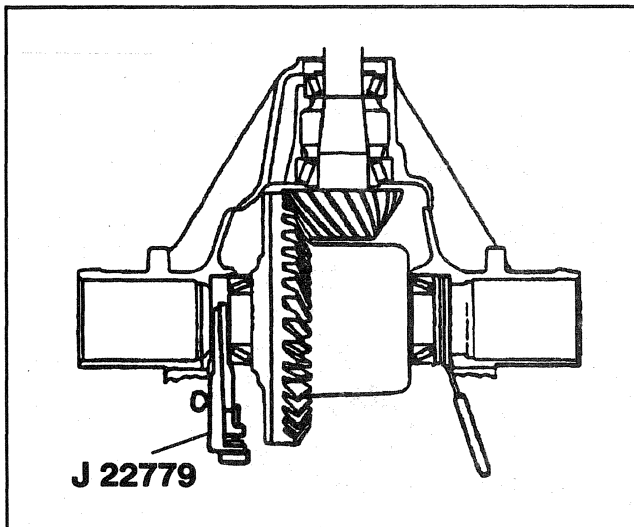

Figure 22—Measuring Side Bearing Shim Requirements
5. Move the tool back and forth in the bore while turning the adjusting nut clockwise until a noticeable drag is produced (Figure 22).
6. Install a service spacer (9) and service shim (9) between the right bearing cup and axle housing.